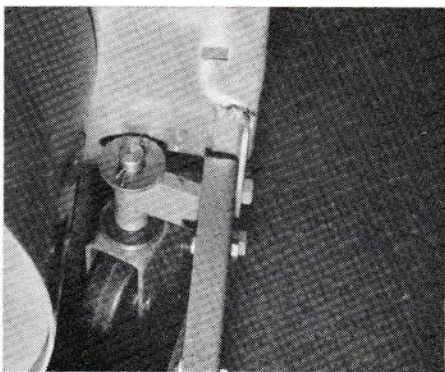

Figure 28
The caster bracket holes are slotted, and three (3) pairs of holes are provided in the frame for height adjustment. Figure 28